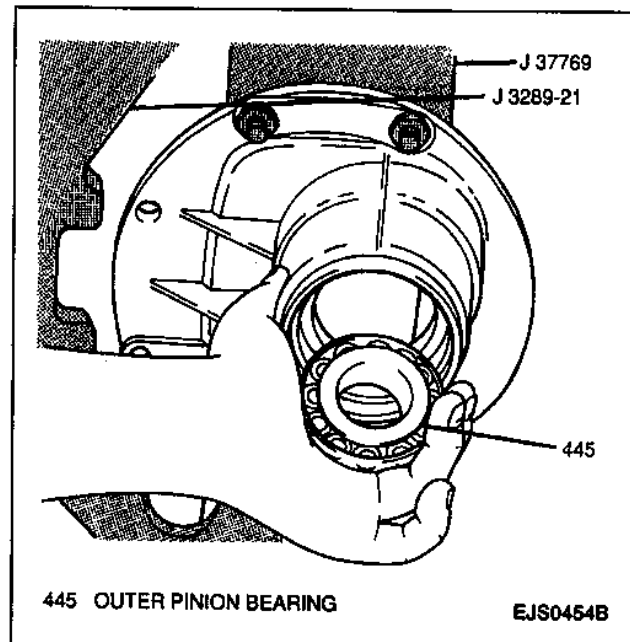

Figure 45—Removing Outer Pinion Bearing
14. Outer pinion bearing from differential carrier (Figure 45).